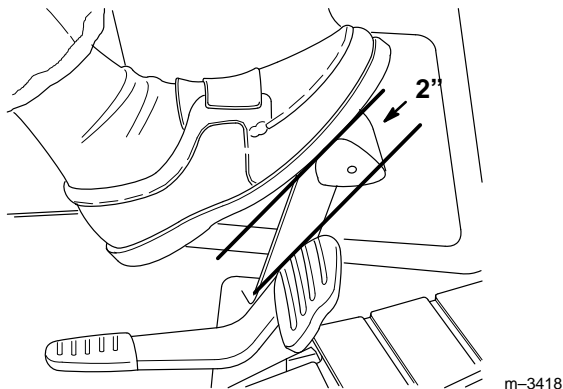

Figure 37
3. Depress the brake pedal. There should be 2" (51 mm) of free travel (Fig. 37) before the brake begins to engage.